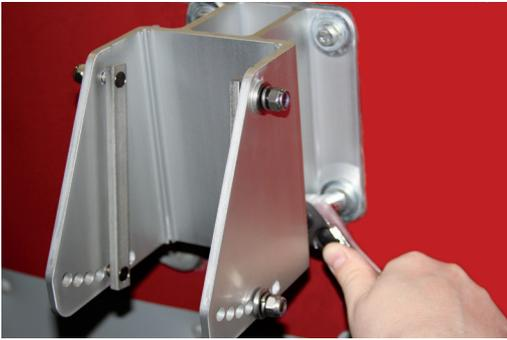

FIGURE 9
4. Attach the Mounting Bracket to the Transom/Stern using the “Mounting Bracket to Transom Hardware” (J-M.) DO NOT OVERTIGHTEN. (Figure 9)